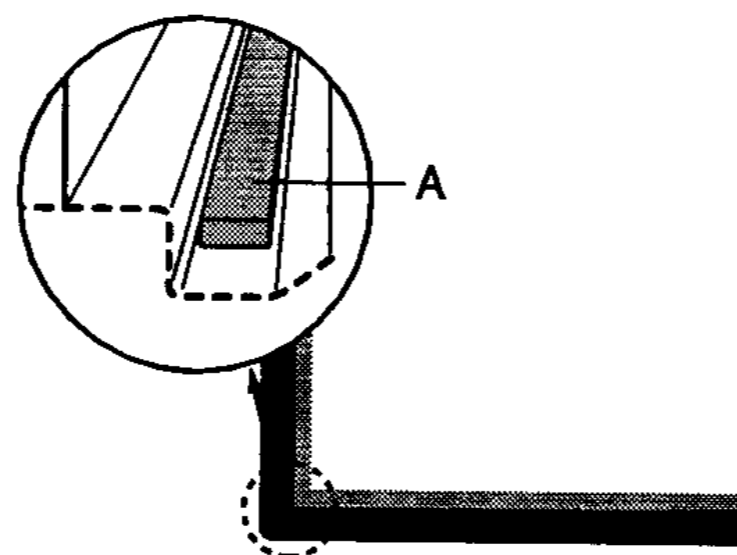

fig. 6
- Stick the sealing strip (A) supplied onto the underside of the hob (see fig. 6).